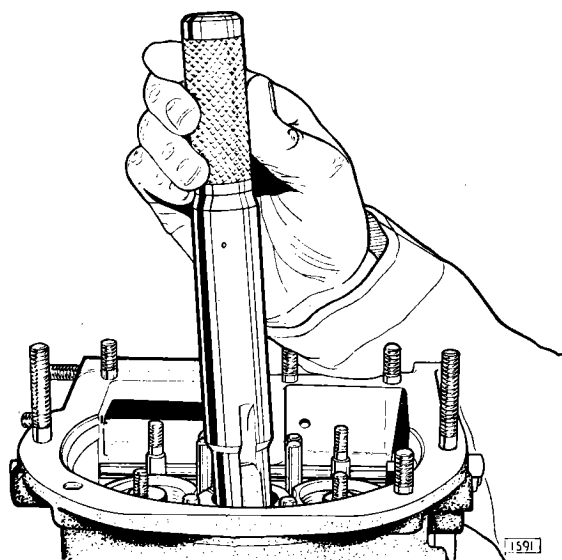

Fig. 33. Aligning the splines (Tool No. L.185).
3. Ensure that the splines in the uni-directional clutch and planet carrier are in alignment. These splines are visible at the bottom of the bore in the overdrive unit. If alignment is necessary, use the dummy mainshaft as shown in Fig. 33.